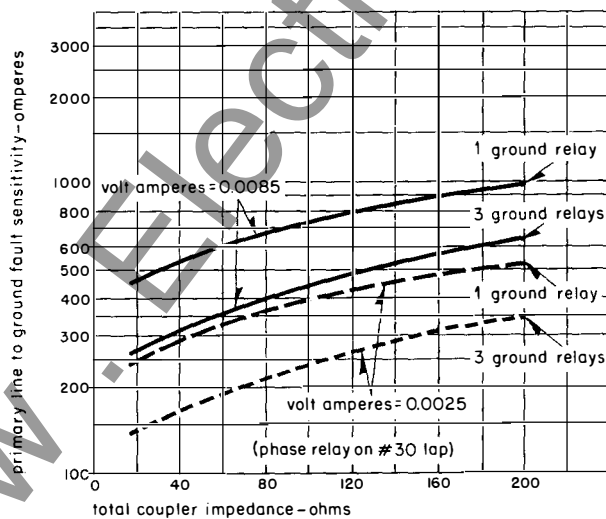

fig. 32: Approximate LC-2 ground relay sensitivity (phase relay on #30 tap).
If answer to (1) is yes, refer to curve A fig. 32, use solid curves, VA = 0.0085 if possible. (Special care required in setting relays to get more sensitive settings.)